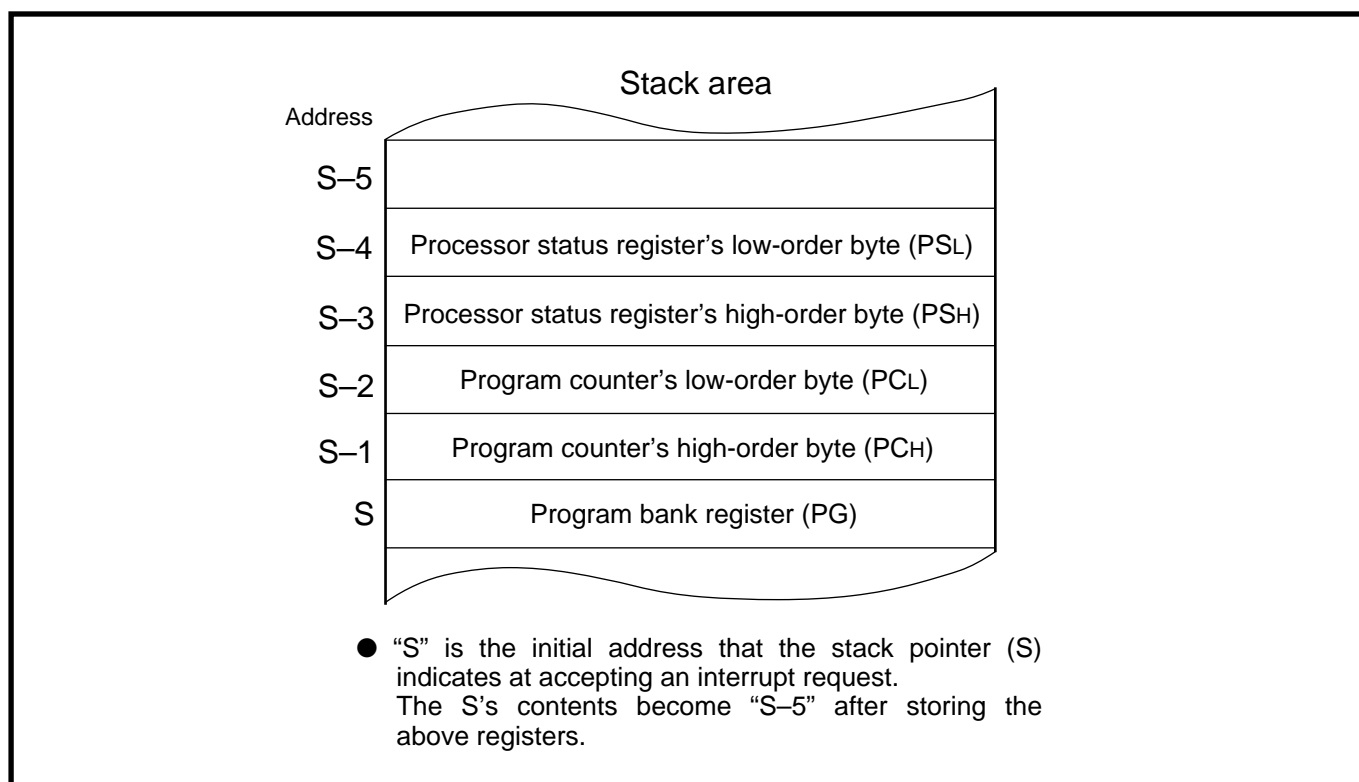

Fig. 2.1.2 Stored registers of the stack area
When an interrupt request is accepted, the microcomputer stores the contents of the program bank register (PG) at the address indicated by the contents of S and decrements the contents of S by 1. Then the contents of the program counter (PC) and the processor status register (PS) are stored. The contents of S after accepting an interrupt request is equal to the contents of S decremented by 5 before the accepting of the interrupt request. (Refer to Figure 2.1.2.)